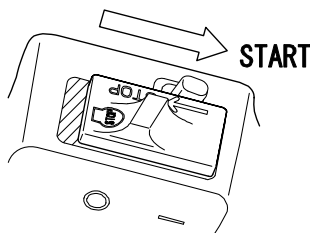

Fig.6-2
1. Zet de stopschakelaar (A) in de START positie. (Fig.6-2)